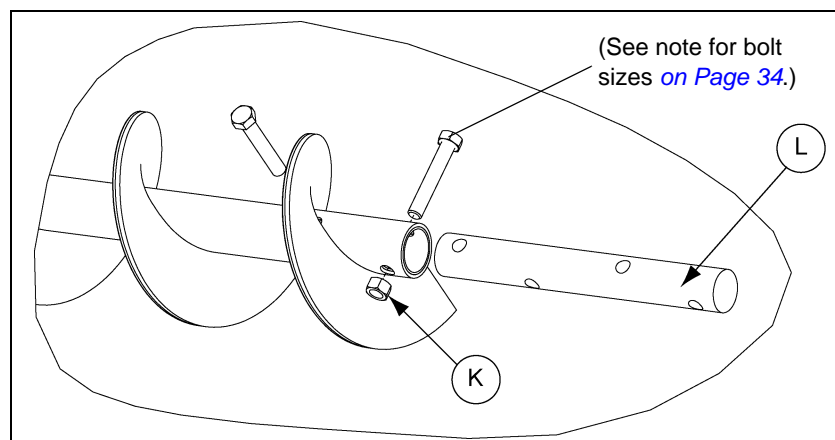

Figure 4AA
5. Insert the connecting stub into the flighting. Secure it with bolts and stover nuts. *(See Note for Bolt Size on Page 34 and Figure 4AA below.)*